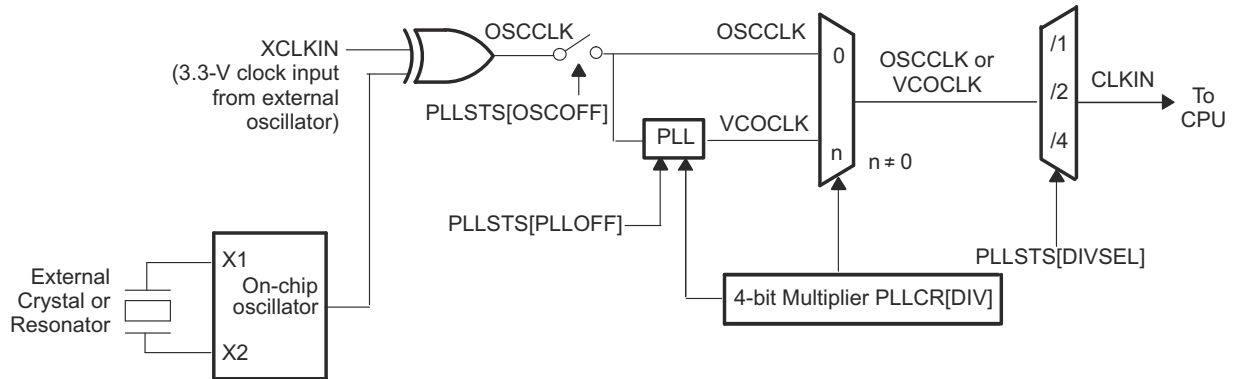

Figure 8-30. OSC and PLL Block Diagram
- A. CLKIN is the clock into the CPU. It is passed out of the CPU as SYSCLKOUT (that is, CLKIN is the same frequency as SYSCLKOUT). See Figure 8-30 for an illustration of how CLKIN is derived.
Figure 8-30 shows the OSC and PLL block.